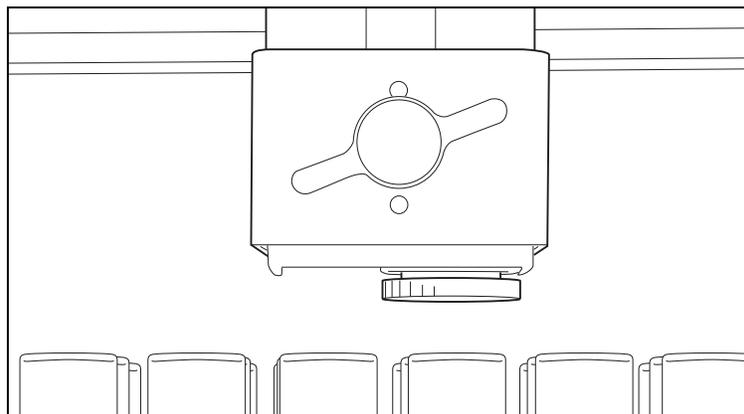

Figure 2-14 Diverter Valve adjusted with $\frac{1}{2}$ inch or 1 cm clearance (standard diverter valve shown)
4. Lower the diverter valve so that the drop former is close to the top of the collection tubes (Figure 2-14). Generally, a $\frac{1}{2}$ -inch or 1 cm space between the drop former and the top of the tubes will sufficiently allow unobstructed movement of the arm.